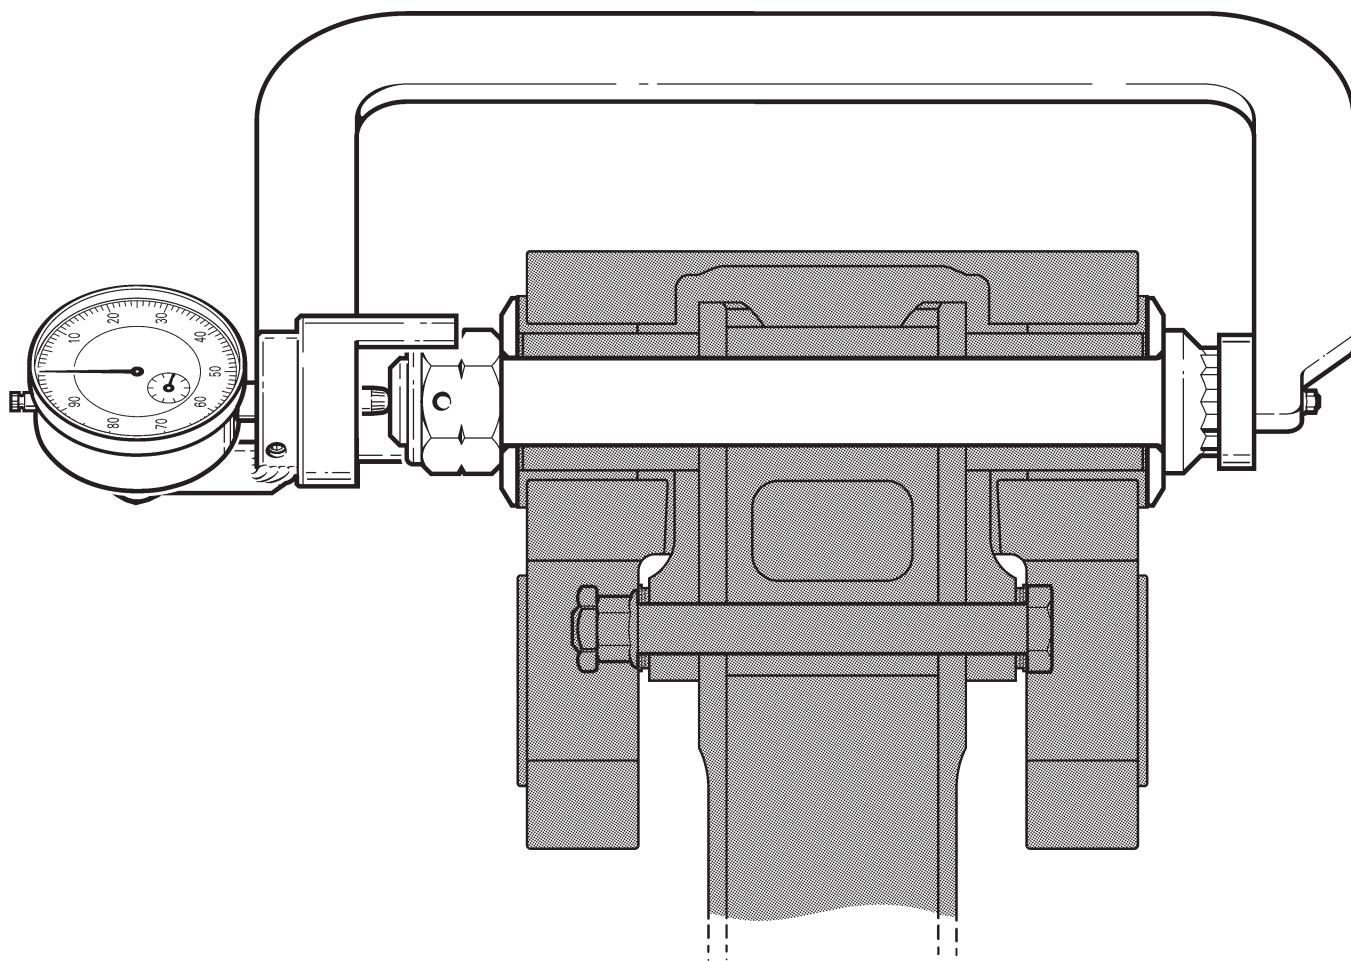

FIGURE 62-4 MEASURING BOLT STRETCH
8. Install MT122-6 main rotor bolt stretch tool on hinge bolt per Figure 62-4. Zero dial indicator by rotating dial face. Lock dial and remove tool.
5. Position MT122-6 main rotor bolt stretch tool on teeter bolt per Figure 62-4. Zero and lock dial indicator. Remove tool.